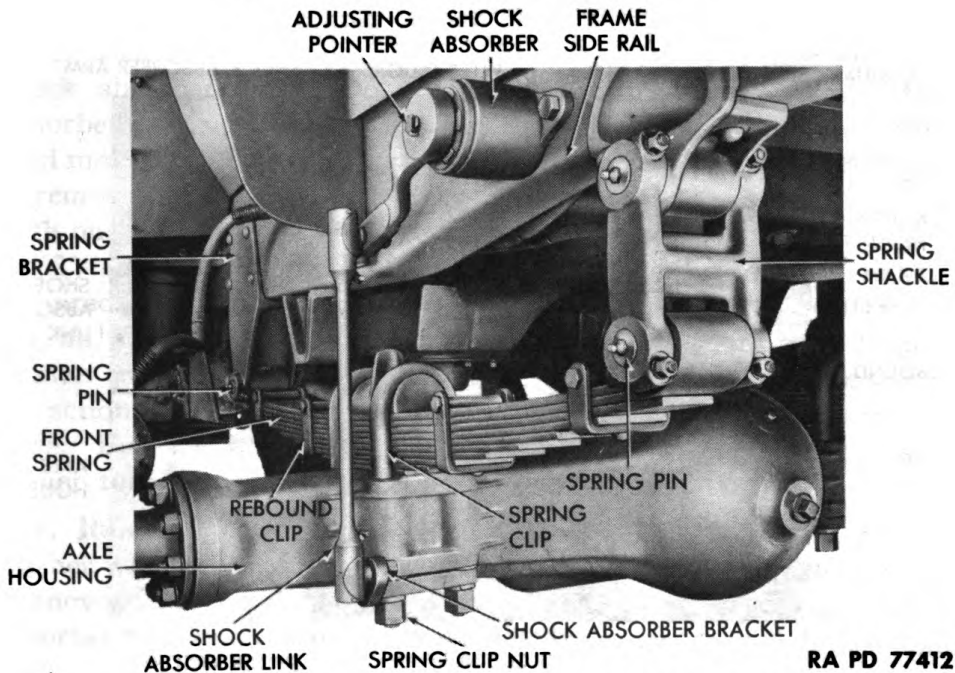

Figure 93 – Front Spring and Shock Absorber
a. Description (fig. 93). Springs are attached to frame side rails and front axle housing. Two spring clips (U-bolts) secure spring at center to housing. Spring is attached to frame at rear by a bracket, at front by a shackle. The spring clip nuts must be kept tight at all times to insure proper wheel alignment, to prevent leaf breakage, and to facilitate steering.
b. Removal (fig. 93). Clean spring free of dirt and grease. Apply kerosene or penetrating oil liberally to spring clip nuts and spring pins. Disconnect shock absorber link from bracket (par. 139 c). Remove the four spring clip nuts and lock washers which secure clips to axle housing. Screw out lubrication fitting from front and rear spring pins. Remove the four nuts and lock washers which secure the four draw keys to spring pin assembly. Drive keys out. Lift vehicle to take load off springs and to cause weight of axle to loosen spring clips from axle housing. Remove clips and clip seats. Drive out spring pins from inner end. Use soft tool to avoid damaging pins. Remove spring.
c. Installation (fig. 93). Replace parts that show noticeable wear or do not fit snugly. Position spring between shackle and bracket. Turn slotted side of spring pins down and insert (front outer end) at each end of spring. Wedge the four draw keys against slotted side of the two pins. Secure each key with lock washer and nut. Install
(1) **DESCRIPTION** (figs. 93 and 94): Shock absorbers are mounted on frame side rails just ahead of front and rear axles. The two rear shock absorbers are mounted inside frame rails, one on each side; the two front shock absorbers are mounted similarly, only outside rails. Shock absorbers are of the rotary-type and are connected to axles by arms and links.
(2) TABULATED DATA:
(1) **MAINTENANCE** (figs. 93 and 94). Refill shock absorbers as follows: Remove the one bolt, nut, and flat washer which secure
(2) **ADJUSTMENT** (figs. 93 and 94). No adjustment of links is required. Shock absorber tension is increased or decreased by rotating an adjusting pointer on the outside of the housing. Turning pointer counterclockwise stiffens its action; turning it clockwise softens its action. Make adjustments in $\frac{1}{16}$ -inch steps or one notch at a time. Full range of adjustment lies between two stops on housing. Never turn pointer beyond these stops.
c. **Removal** (figs. 93 and 94). Remove one jam nut and lock washer which secure link to shock absorber bracket on axle housing. Remove two bolts, nuts, and lock washers which secure shock absorber to frame. Remove shock absorber, arm, and link as a unit.
d. **Installation** (figs. 93 and 94). Position shock absorber on frame and secure with two bolts, nuts, and lock washers. Install one jam nut and lock washer which secure link to axle housing.